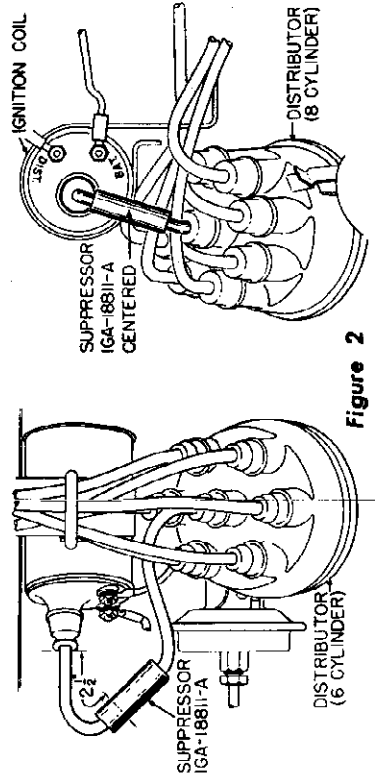

Figure 2
2. Cut the high tension wire that runs from the Ignition Coil to the center hole of the Distributor Cap (make the cut 2 1/2-inches from the coil on six cylinder cars, and 1 1/2-inches on eight cylinder cars). See figure 2. Remove the wire from the Coil and screw the cut end of the wire into Suppressor 1GA-18811-A. Screw the other end of the Suppressor on the cut end of the Distributor wire, and replace the wire in the Ignition Coil.